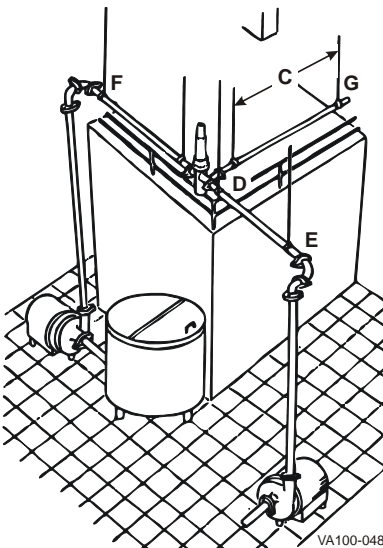

Figure 2 : Pipeline Support
1. Install supports at least every 10 feet (3 meters) on straight runs of piping (Figure 2, item C).
2. Install supports on both sides of the valves as close as possible to the connections (Figure 2, item D).
3. Install supports at each change of pipeline direction (Figure 2, item E and F).
4. For pipelines passing through walls, floors or ceilings, provide at least 1 inch (25 mm) of clearance around the pipe to allow for expansion and contraction (Figure 2, item G).